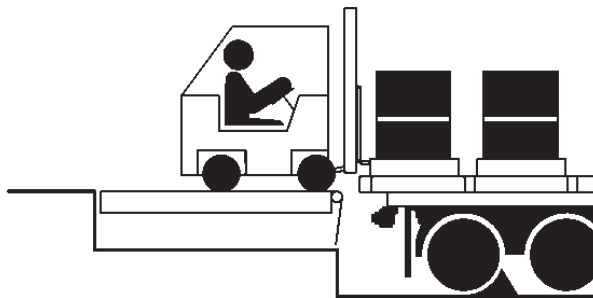

Figure 18
4. If transport vehicle bed is at or above dock floor level, leave leveler at the cross-traffic position and proceed with loading or unloading (see Figure 18). If transport vehicle bed is below the dock floor level, continue with Step 5.